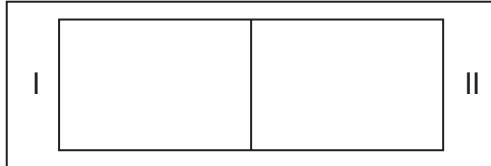

Figure 2. Key-actuated switch.
5.1 Air Curtain is controlled by Key-actuated switch on the face board (Fig.2).